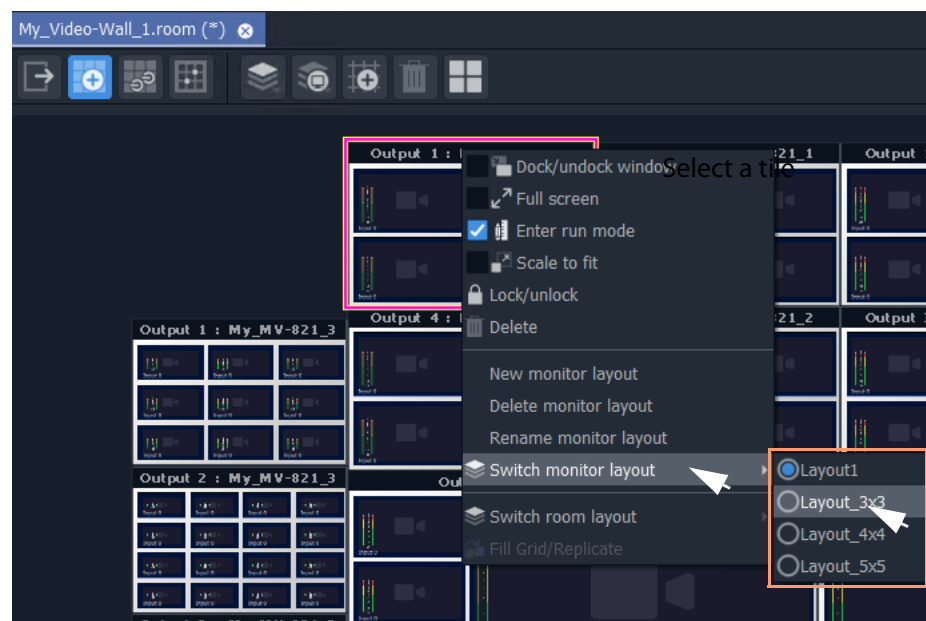

Fig. 14-50: Select a Monitor Layout
- 6 Select 'Switch Monitor Layout' and select a **Monitor Layout** from the list. (See Figure 14-50.)